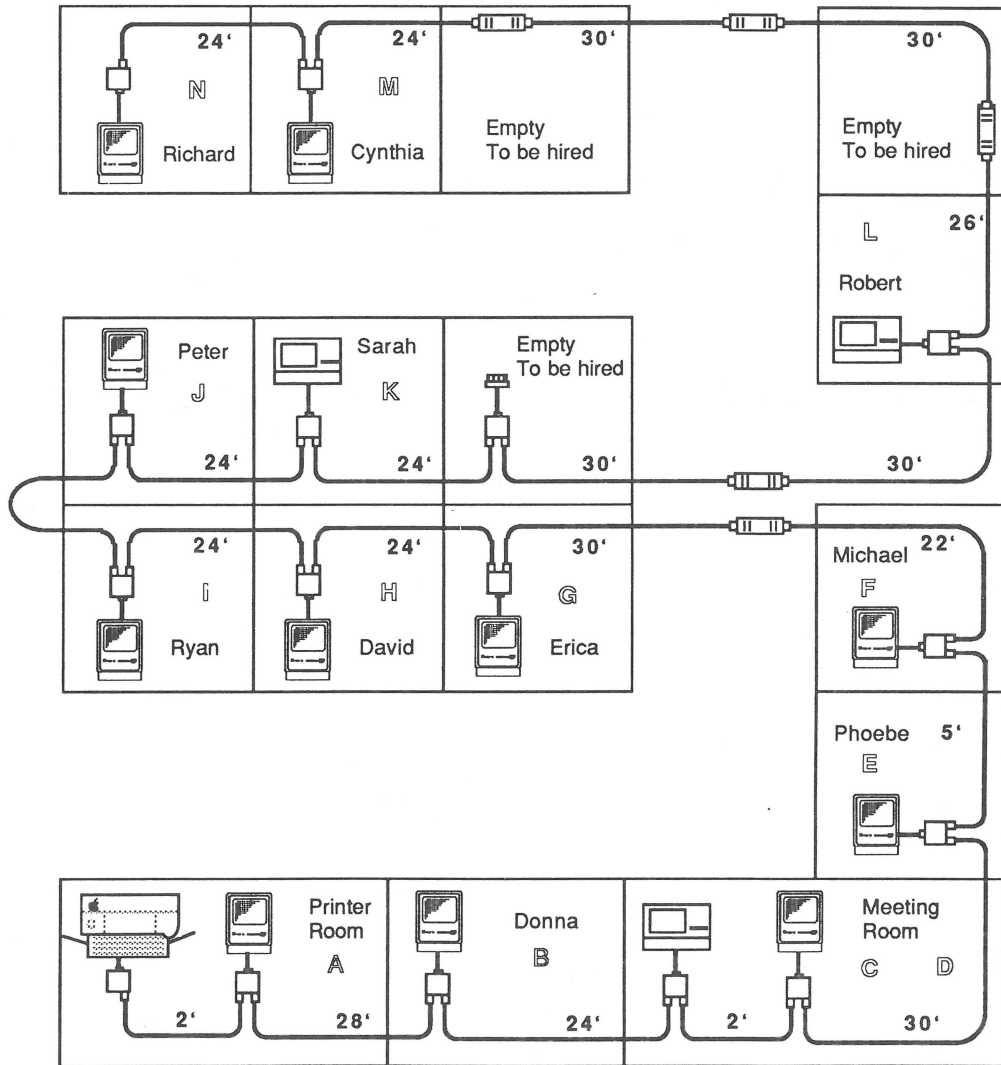

FIGURE 9
1. Draw a network map and assign each computer a name (Figure 9).